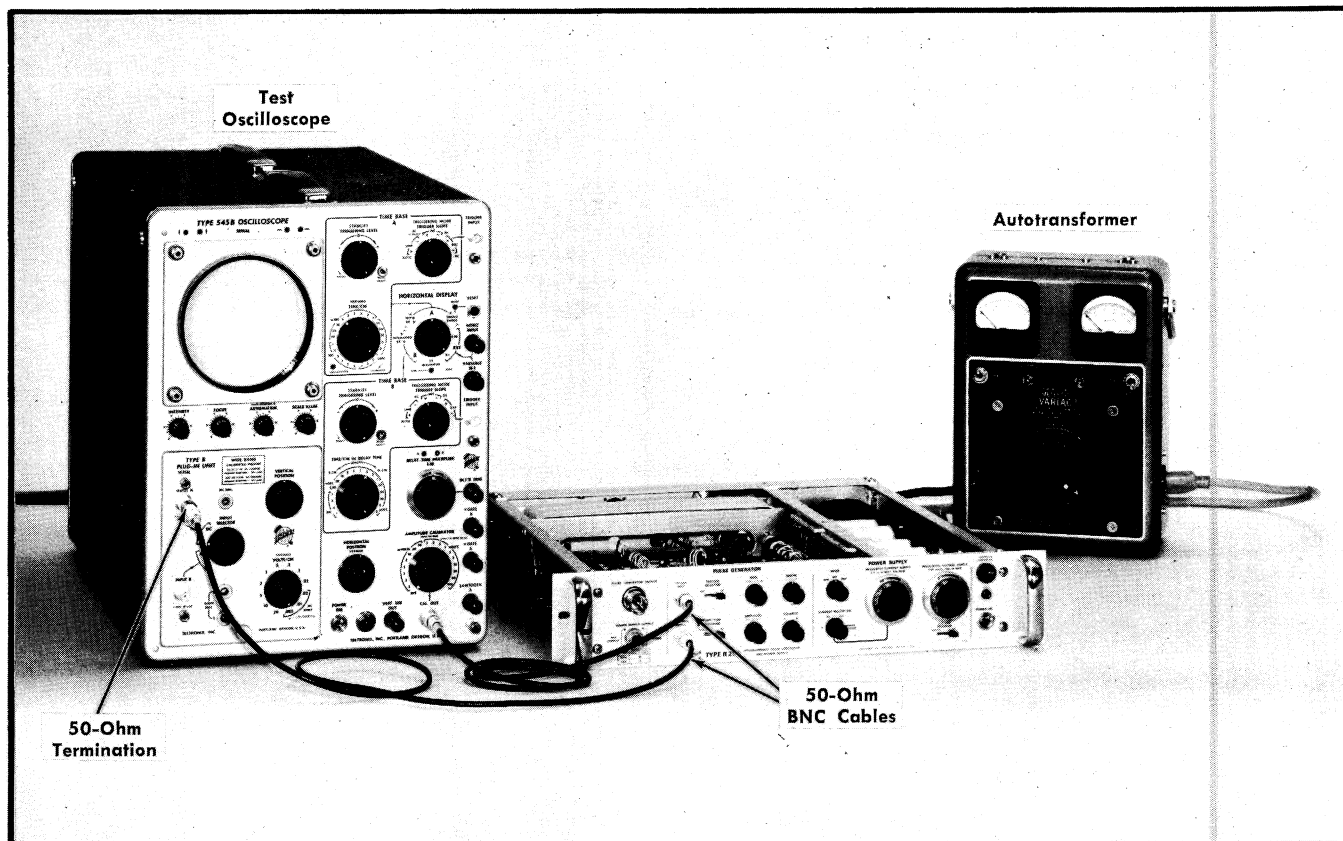

Fig. 6-7. Initial test equipment setup for steps 5 through 7.
- Test equipment setup is shown in Fig. 6-7.
- a. Test equipment setup is shown in Fig. 6-7.